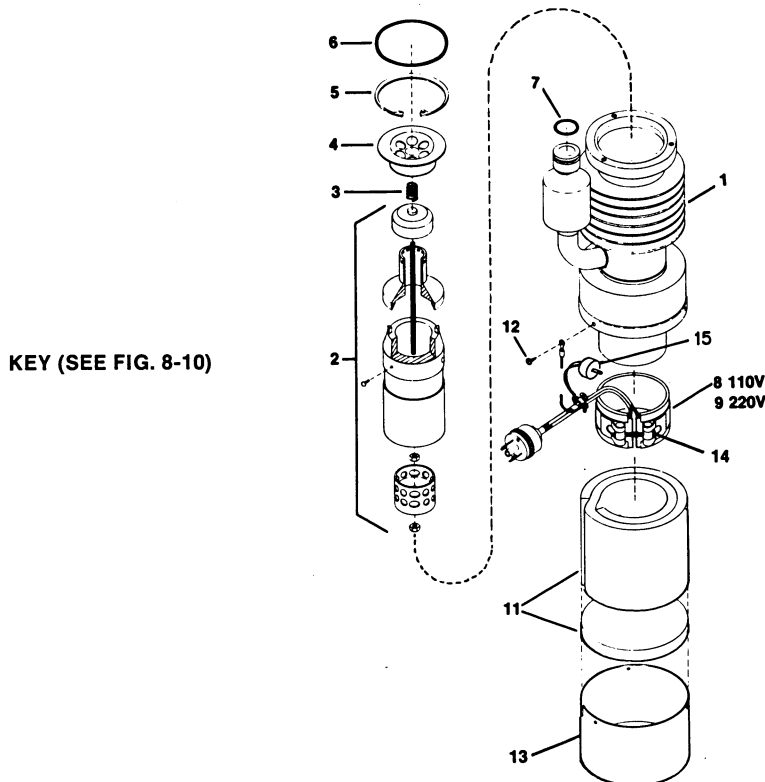

Fig. 4-6. Diffusion Pump, Exploded View
1. Remove retaining ring (5, Fig. 4-6), using a small screwdriver or retaining ring pliers.
2. Remove baffle (4), spring (3), and jet assembly (2).
1. Remove screws (12, Fig. 4-6), then carefully pull off bottom cover (13) and insulation (11) from diffusion pump (mark hole line-up for reassembly).
2. Loosen screws (14), then remove band heating element and thermostat (8 or 9), noting position of wire leads and strain relief.
3. Install new heating element. Be sure there is no foreign matter between heating element and pump body. A good metal-to-metal contact is required. Tighten screw (14) securely.
5. Reassemble insulation (11) exactly as it came off.
6. Slide bottom cover (13) over insulation (11) and secure with screws (12). Be sure tab on strain relief is inside bottom cover.